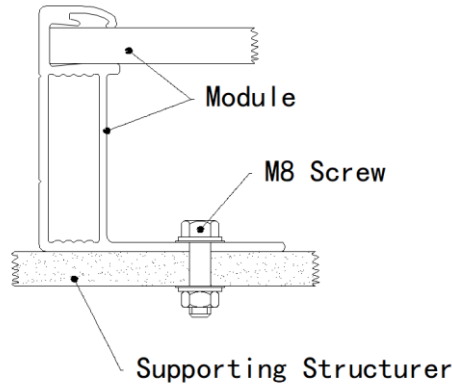

FIG 5 Screw fitting method
- The module frame must be attached to the mounting system using M8 stainless steel hardware together with spring washers and flat washers in four places symmetrical on the module, as shown in Figure 5.